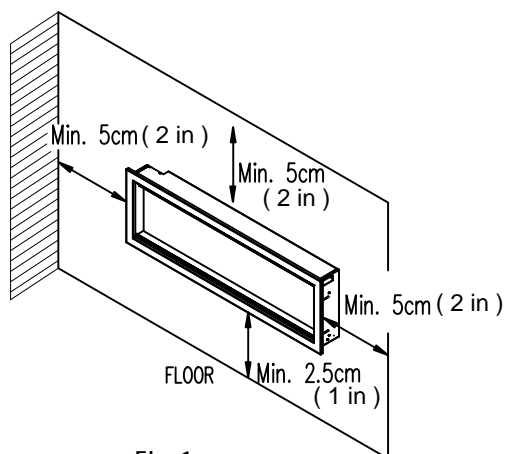

Fig. 1
2. Using a spirit level select a position in which to mount the heater horizontally. See Figure 1.